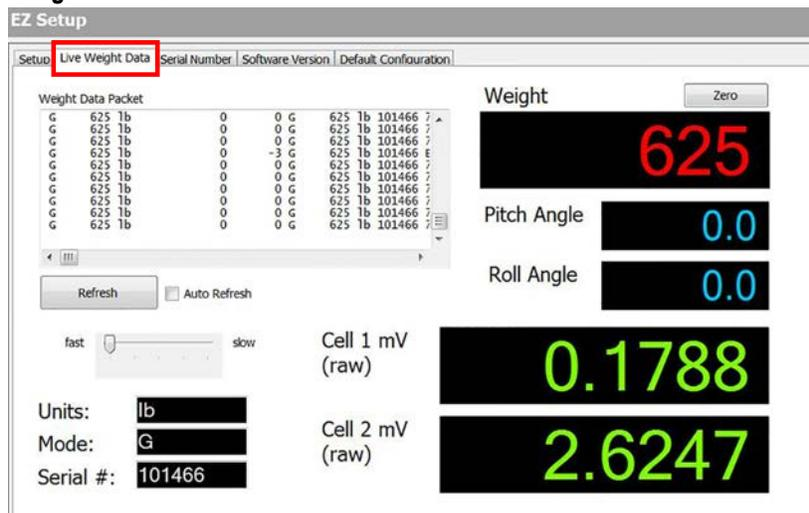

Figure 4-30. Live Weight Data Tab
**Note** Weight data packet screen shows output format of CLS. Other displays include weight, pitch angle, roll angle, cell 1 and 2mV (Section Figure 4-30. on page 33). This is the information that will be sent to the customer-supplied handheld device when attached through Bluetooth.